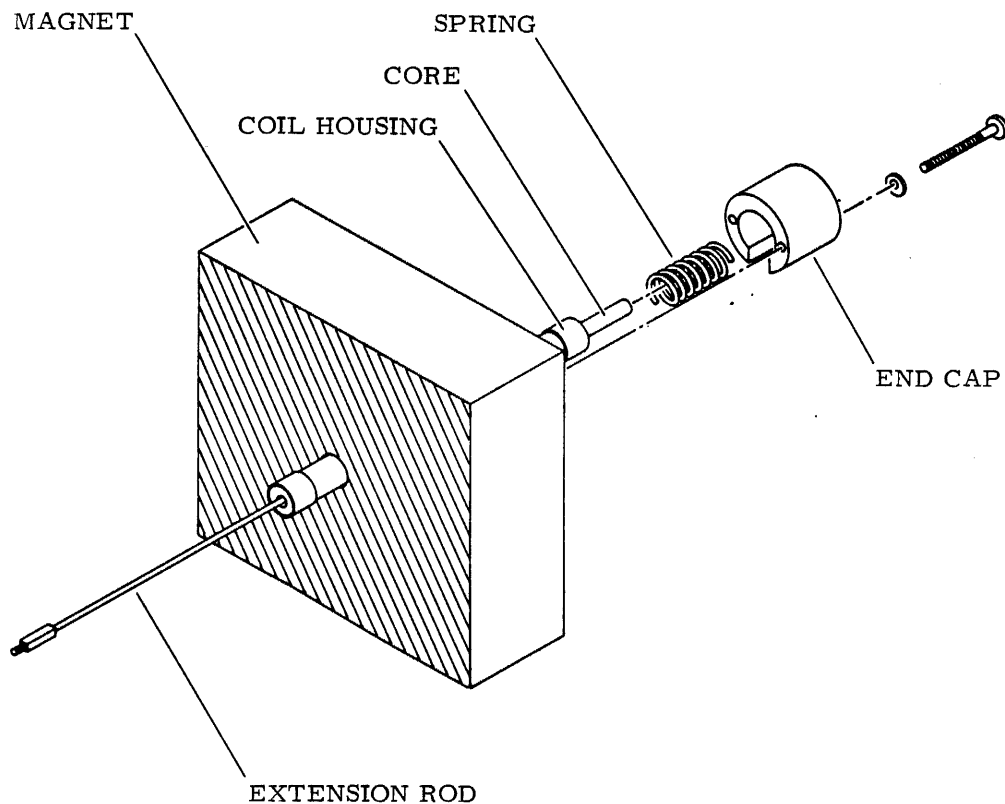

Figure 6-4. Velocity Transducer Replacement
- 28. Replace velocity transducer assembly (refer to figure 6-4) as follows: